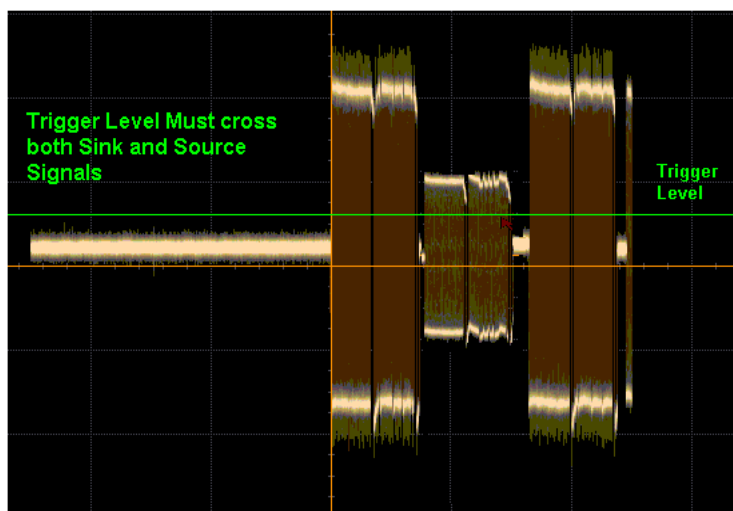
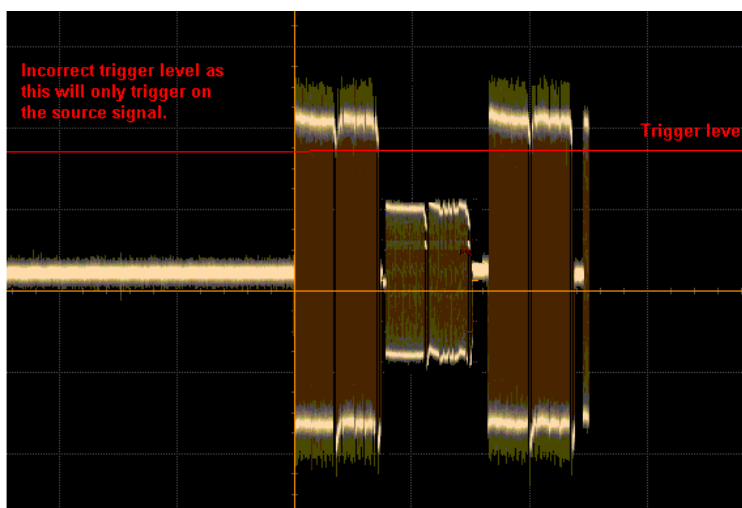

Figure 34 Correct Trigger Level
Figure 35 Incorrect Trigger Level
- **Trigger Level** – The AUX Channel signal level on which to trigger. Note that for a bi-directional signal (where a reference sink is attached), you must set the trigger level such that it crosses both the source command and the sink reply signal. Figure 34 and Figure 35 shows correct and incorrect trigger levels.